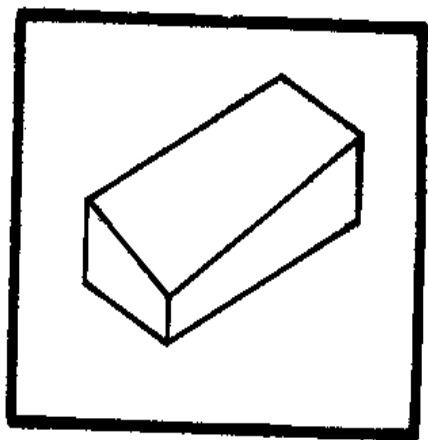

Fig. 19 - Corner Taper
61. Corner Taper (See Fig. 19) A